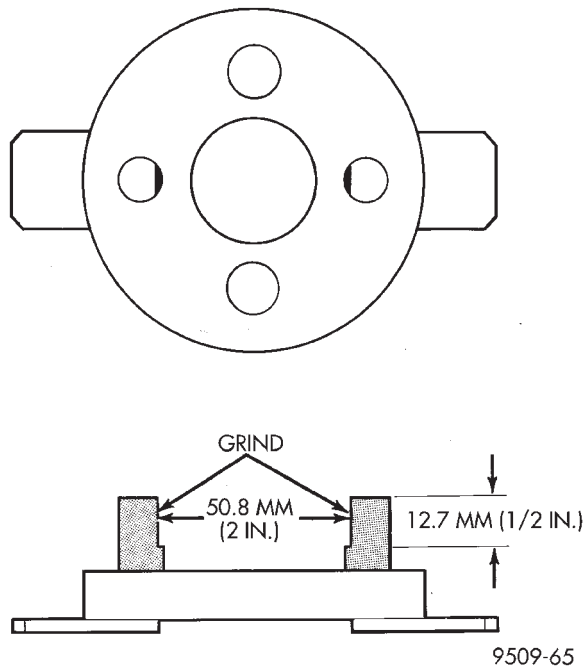
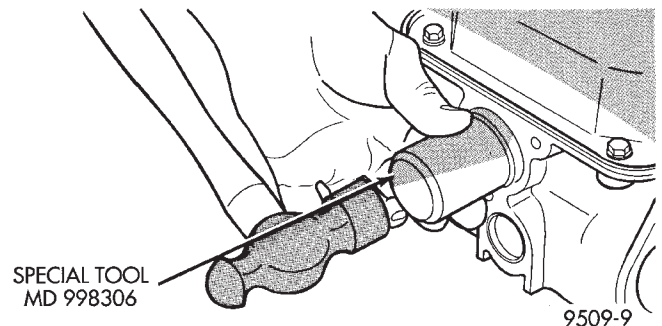

Fig. 36 Modification to Special Tool
Fig. 38 Installing Camshaft Seal
(1) Remove front timing belt cover, timing belt and tensioner assembly. Refer to procedures outlined in this section.
(2) Remove camshaft sprocket bolt, with the Modified Special Tool C-4687-1 as shown in (Fig. 36).
(3) Hold camshaft sprocket with modified tool while removing bolt. Remove sprocket from camshaft.
(1) Install camshaft seal flush with cylinder head using Special Tool MD 998306 (Fig. 38).
(2) Install rear timing belt cover.
(3) Install camshaft sprocket retaining bolt. Hold camshaft sprocket with Special Tool C-4687-1 (Fig. 36) and tighten bolt to 115 N·m (85 ft. lbs.).